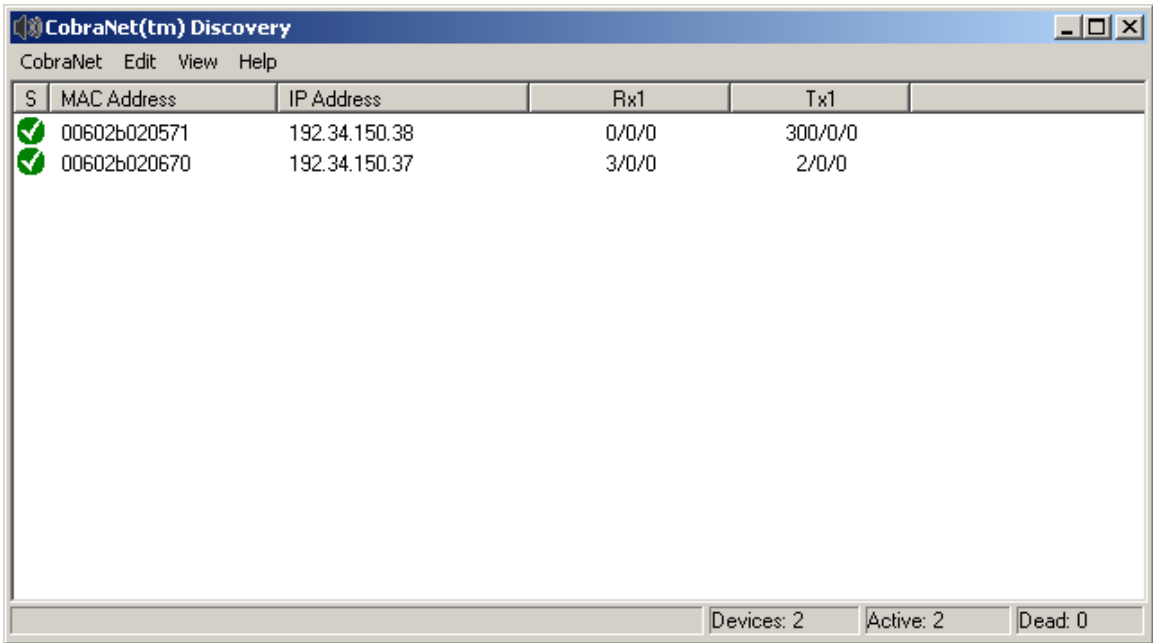

Figure 3
3. If we open the “discovery” window once again, the list of CobraNet devices are arranged by MAC address. If auto assignment was enabled, each MAC address should now have a unique IP address associated with it (refer to Figure 3 on page 4). Notice that the bundle values and status indicators are now filled in for the transmitters and receivers.